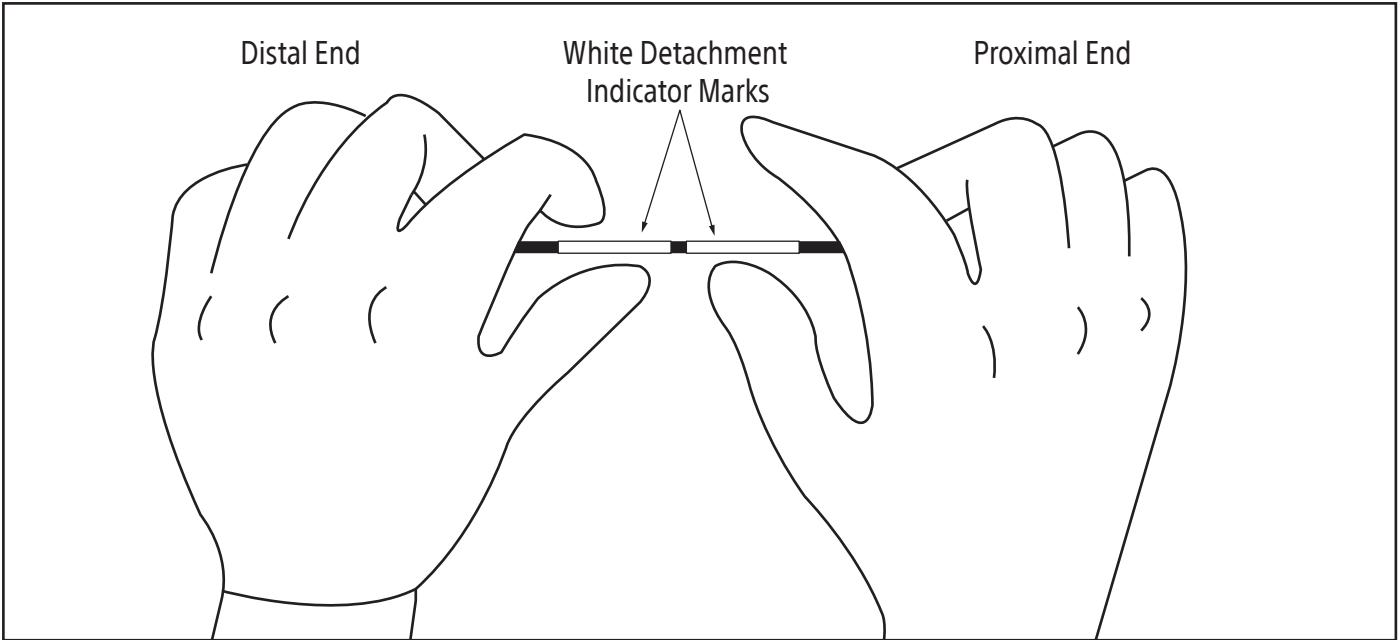

Figure 7. Coil detachment preparation
1. When ready for coil detachment, grasp the white detachment indicator marks located near the proximal end of the delivery wire (Figure 7).